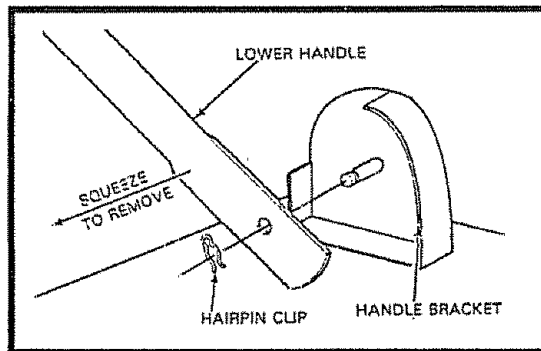

FIG. 16
- Remove the starter rope guide from the handle trim plate and two (2) self-tapping screws that hold the trim plate to the handle.
- Disconnect the lower handle from the handle brackets (See Fig. 16).
- Turn the handle over and reassemble all of the parts that have been removed (See Fig. 16).